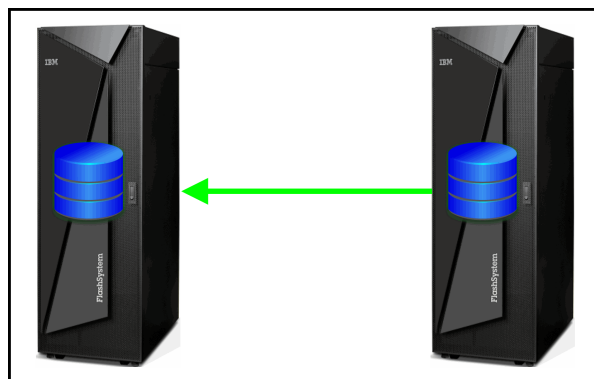

Figure 3-3 Copying changes back to production site
During normal remote mirroring operation, one system (at the DR site) is active as a mirroring target. The other system (at the local production site) is active as a mirroring target only when it becomes available again after an outage, and when changing roles between the production and the DR site. During a failback, data changes made when production is running on the remote (DR) site are copied back to the original production site, as shown in Figure 3-3.